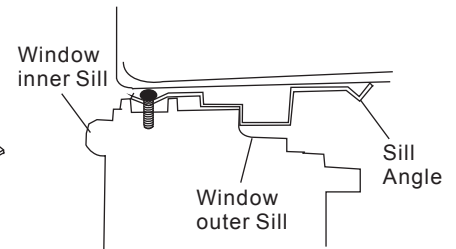

Fig.12
2. Place cabinet in window with bottom sill angle firmly seated over window sill as shown. Bring window down temporarily behind top angle to hold cabinet in place(Fig.12).
Step 2. Remark a line on the provided R1 insulation panel according to a length 1/8 " (3mm) less than the measured width in step 1, then cut the R1 insulation panel along the line (Fig. 12).